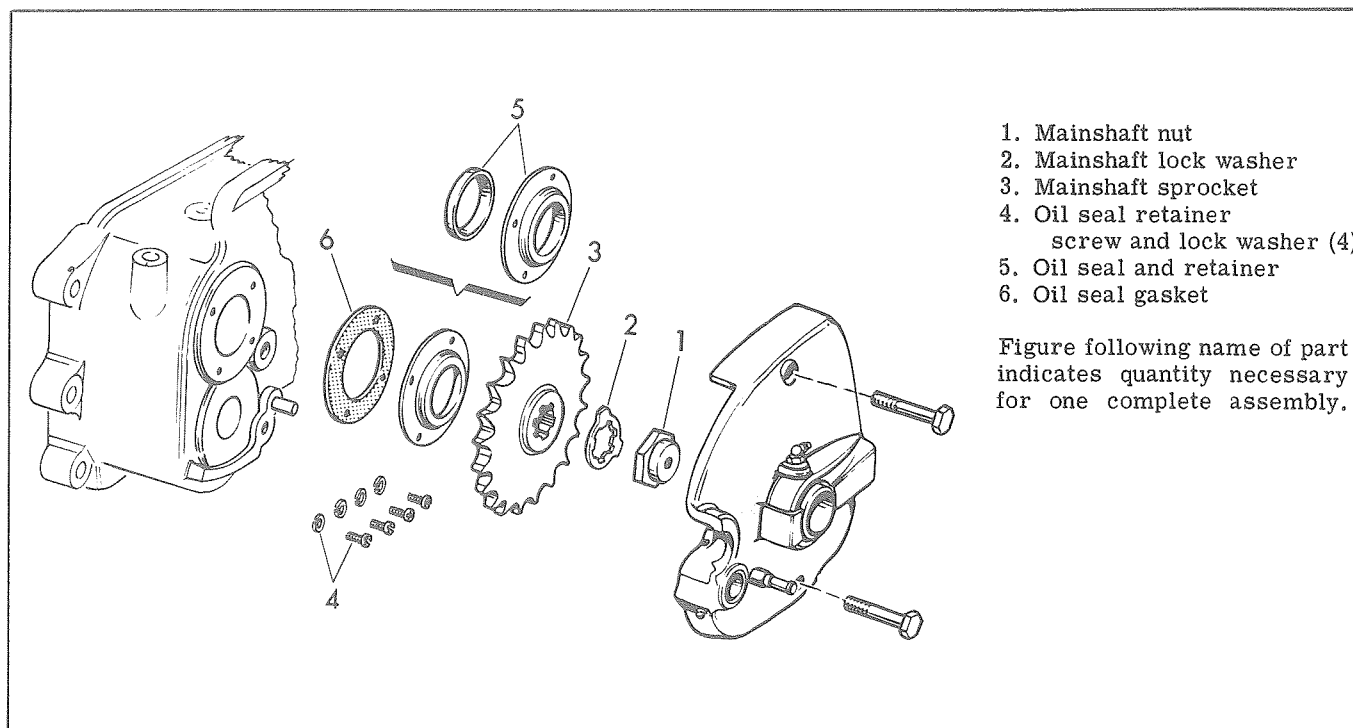

Figure 4D-15. Transmission Mainshaft Sprocket
Loosen mainshaft nut (1) and disconnect rear chain by removing chain connecting link. See Fig. 4D-15
See Fig. 4D-16. Remove four access cover cap screws (2). Pry clutch gear oil seal (3), from clutch gear with screwdriver or release rod end that has been wiped dry. Remove hub nut rubber "O" ring (4), (if used) from clutch gear extension groove. Using Transmission Access Cover Puller, Part No. 95560-57, loosen access cover from left crankcase side as shown in Fig. 4D-17. Remove access cover from crankcase with transmission parts that remain attached to the cover (see Fig. 4D-18).